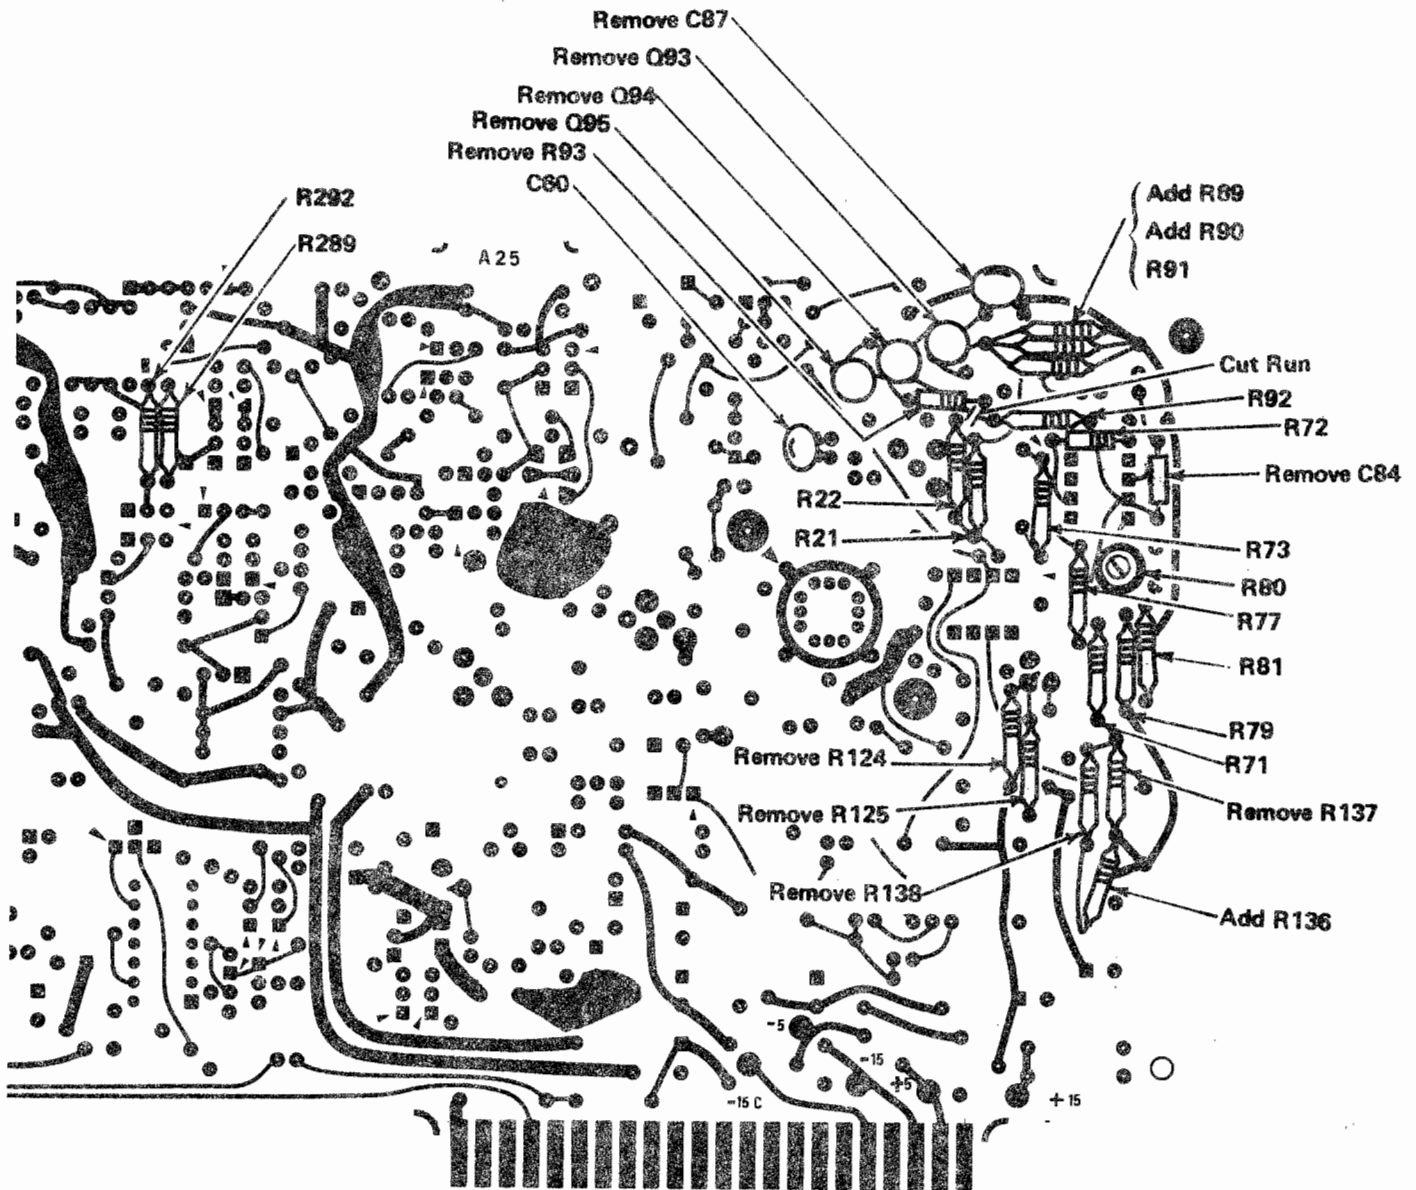

Fig. 1. Locations of Parts on Component Side of Digitizer Circuit Board (A25).
Refer to Fig. 1 when performing steps 5 through 8.
- 7. Add R136, a 1.15k Ω resistor, in tepee-fashion, as indicated in Fig. 1.
- 8. Cut run connecting the lead of R92 nearest Q94 (previously removed) to the collector of Q94. Refer to Fig. 1.